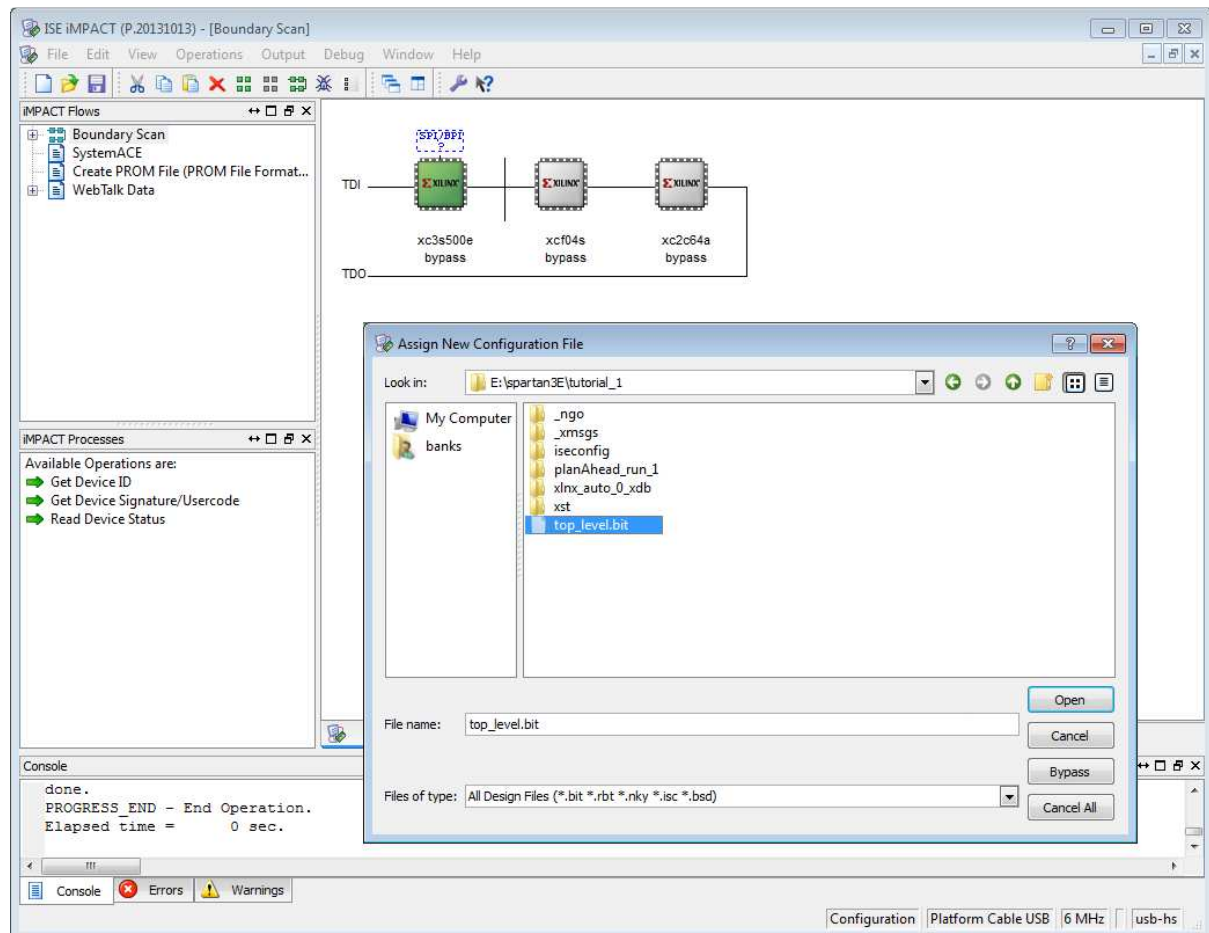

Figure 3.33: iMPACT window, assigning the configuration file for the xc3e500e.
8. The **Assign New Configuration File** window will appear (Figure 3.33). Select the file “top_level.bit”, and click **Open**. This associates the file top_level.bit with the xc3s500e.